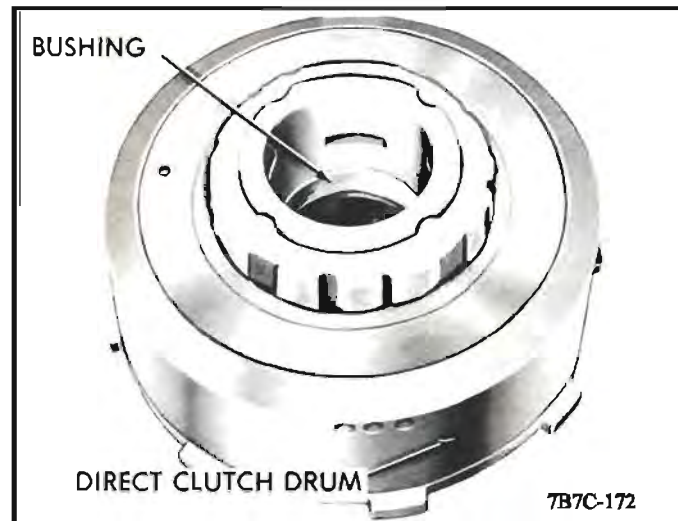

Figure 134 Direct Clutch Bushing Removal
1. If bushing replacement is necessary, use Tool J-23062-10 and Drive Handle J-8092 and remove the bushing. *See Figure 134.*